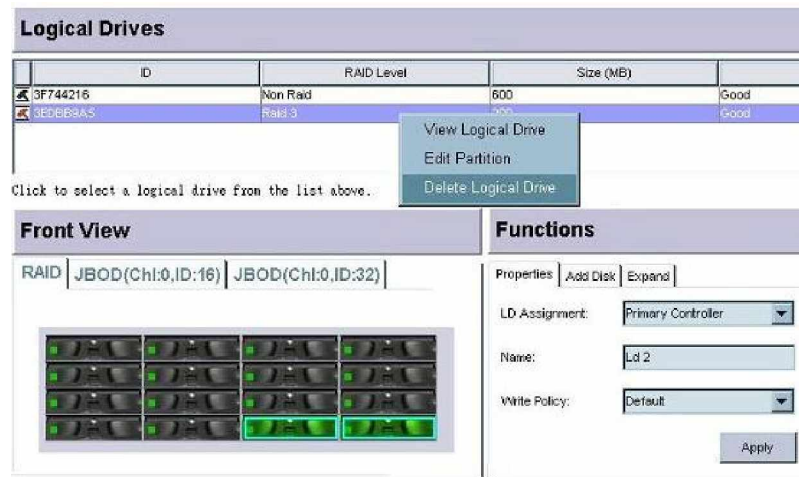

Figure 9-12: Displaying the “Logical Drive” Command Menu
Step 1. Select the logical drive you wish to remove with a single mouse-click. **Right click** on the adjacent screen area. A command menu will prompt as shown in *Figure 9-12*.